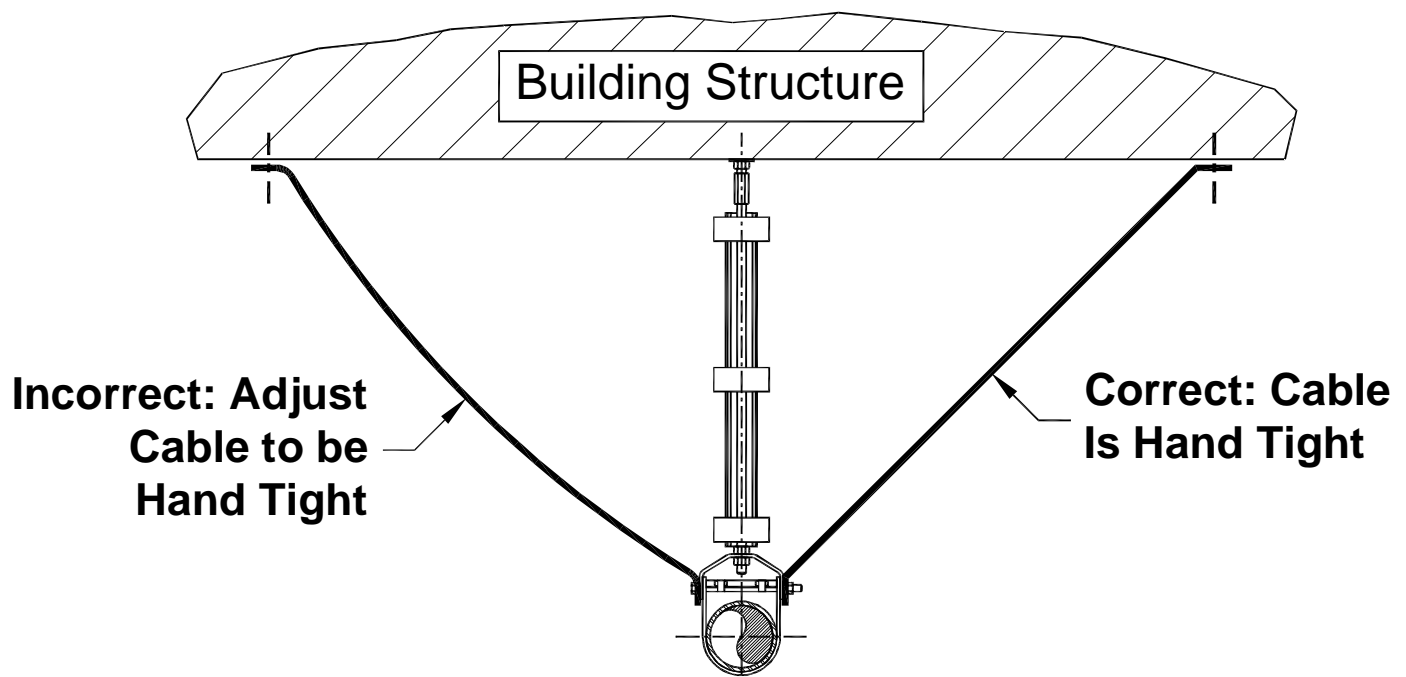

Figure I6-39; All Seismic Restraint Cables must be Hand Tight
2. Be sure all restraint locations have the proper restraints, transverse (T) and/or Longitudinal (L) and/or (TL), installed per the drawings provided by Kinetics Noise Control or the responsible engineer of record.
3. Make sure all longitudinal (L) restraints on trapeze supported pipe and duct are **balanced**. Seismic forces acting through the longitudinal (L) restraints should not twist the pipe or duct through the trapeze bar.
4. All seismic restraint cable must be hand tight as shown in Figure I6-39, and the pipe(s) or duct must be centered.